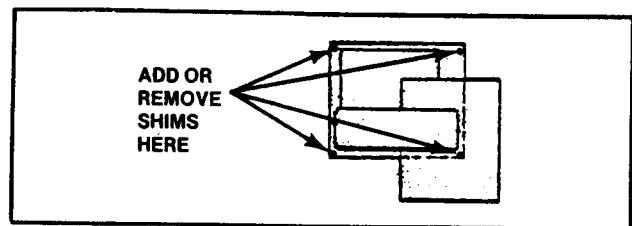

FIG. 5. SHIMMING LOCATIONS - TOP VIEW.
- (1) Release band tension. Remove trunnion guard, post saw guard, table center disk. Remove saw band from around each wheel; then remove upper and lower saw guides. See "Band Removal" section, if necessary.
- (2) Remove band's protective plastic cap and re-install it over each wheel. Tension to maximum indicator reading. Refer to "Band Tensioning" section, if necessary.
- (3) Shim between base mounting pads and floor until machine is level, with weight resting evenly on all pads. Check by tapping with bar or hammer. See Fig. 5.